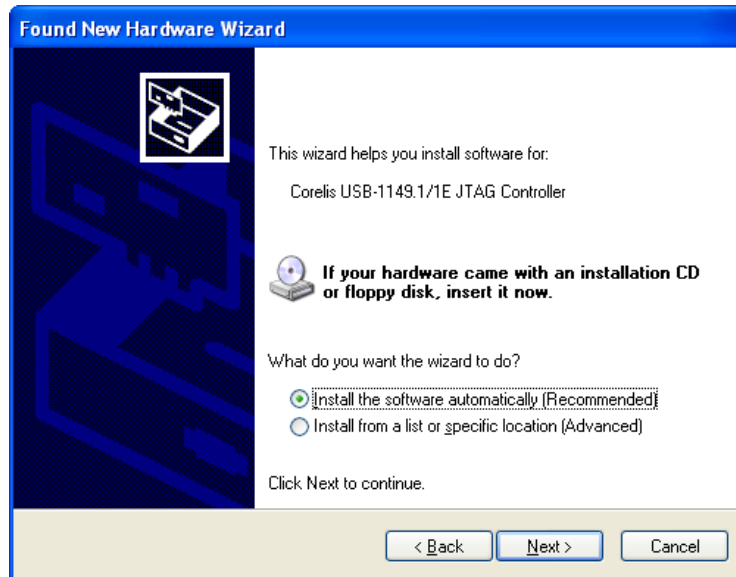

Figure 2-2. Found New Hardware Wizard (WinXP)
5. The following dialog box shown in Figure 2-2 will pop up. Select “**Install the software automatically (Recommended)**” and click on the **Next** button.